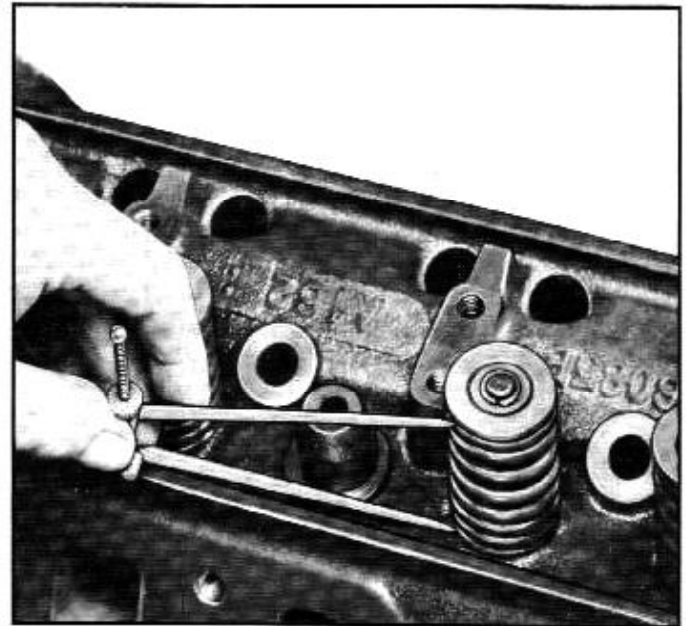

Fig. 6A-44—Measuring Valve Spring Assembled Height
- a. Use dividers to measure the assembled height from the surface of the cylinder head spring pad to underside of the spring retainer. See figure 6A-44.